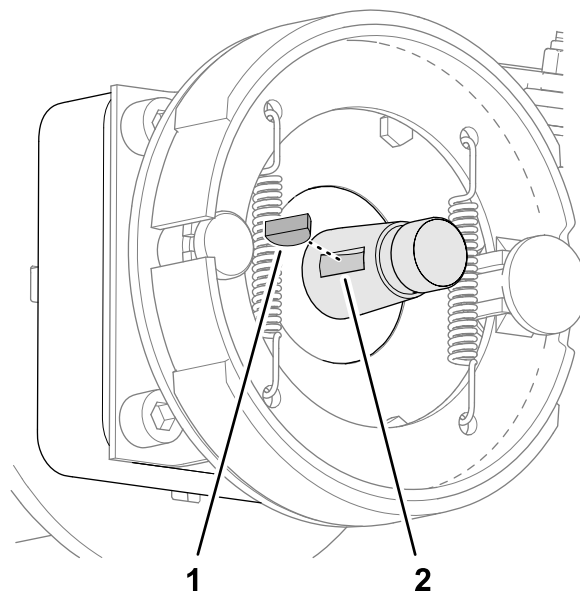

Figure 79
5. Remove woodruff key from the wheel-motor shaft (Figure 79).